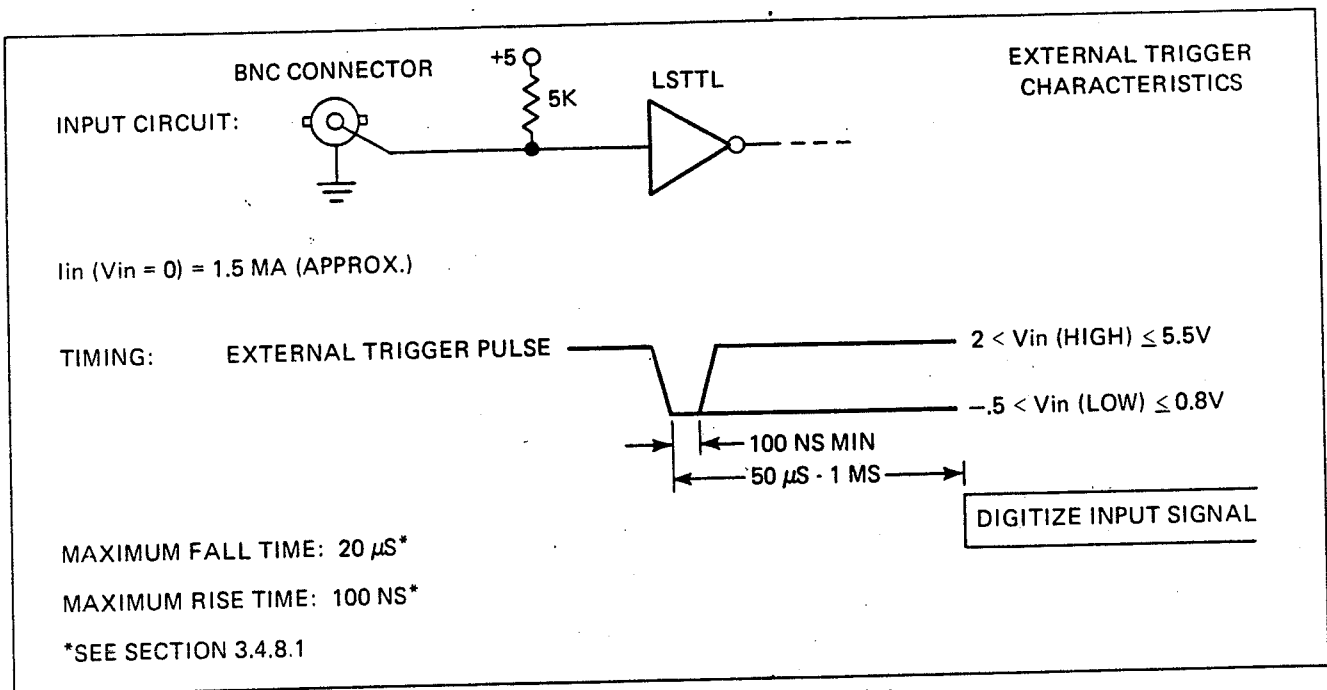

Figure 3.16A - External Trigger Characteristics
3.4.15.1.1 The signal level and timing requirements for the external trigger are presented in Figure 3.16A. These timing requirements are not critical when in local control as the DMM interprets a tight group of external triggers as a single trigger command and the rise and fall time specifications stated in Figure 3.16A do not apply, due to this internal debouncing. This allows the use of mechanical foot switches and other "noisy" signal sources with good results. When in remote, all external triggers are treated individually and two or more closely spaced triggers will cause the DMM to issue an SRQ to the bus and make an error message available to the controller.